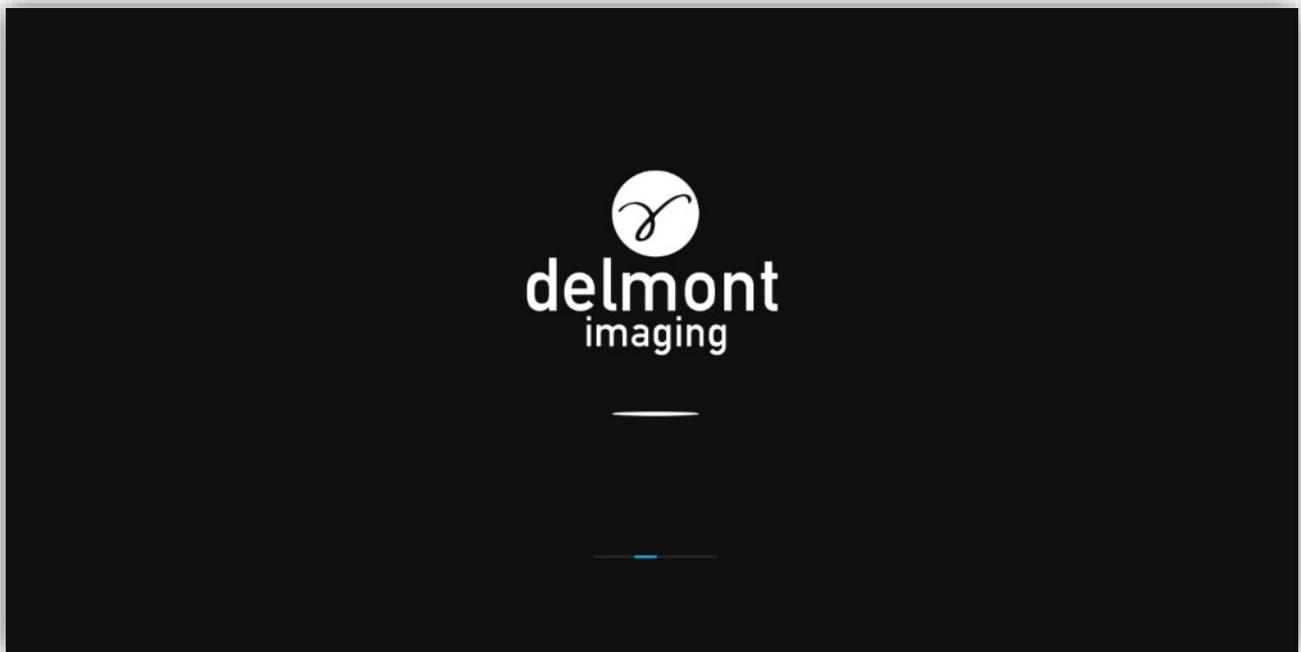

Figure 5 - Booting screen
- The monitor displays a boot screen with Delmont imaging logo (see Figure 5).